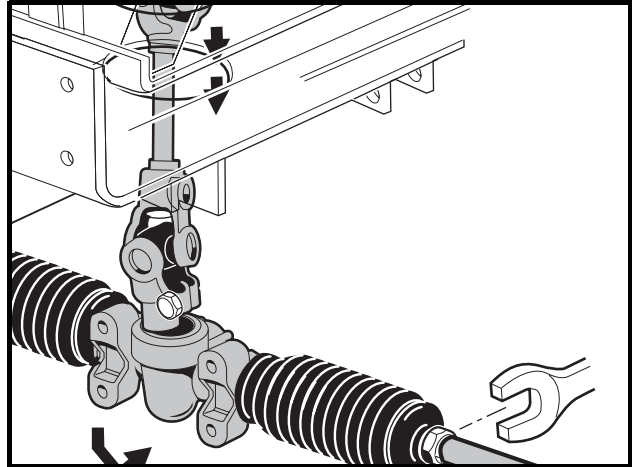

Figure 7-8 Drag Link
3. Remove both drag links (19) (**Figure 7-8, Page 7-5**).
17. Loosely install and advance the two nuts and drag links to the inner ball joint (**Figure 7-8, Page 7-5**). Nuts will be tightened during the toe-in adjustment procedure. **See Toe-in Measurement on page 7-12.**